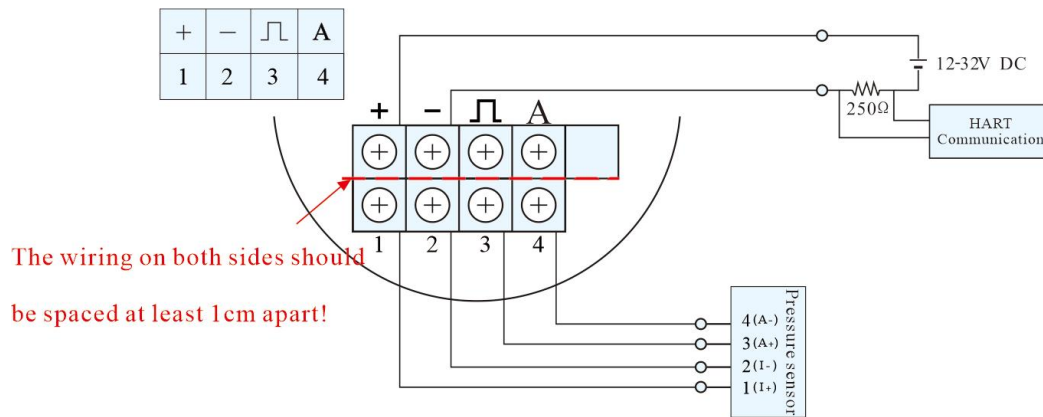

Fig.14
4. Connect external power supply DC12V-32V, 4-20mA DC output+HART+pressure sensor (Fig.14)